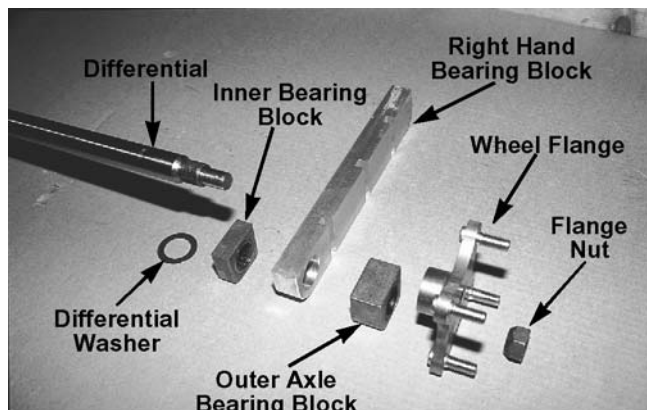

Figure 5-84.
43. Install the wheel flange with the hub facing in. Attach the axle retaining nut, using locktite #242 and torque to 80-100 ft. lbs., with the tapered side toward the flange. See Figure 5-84.